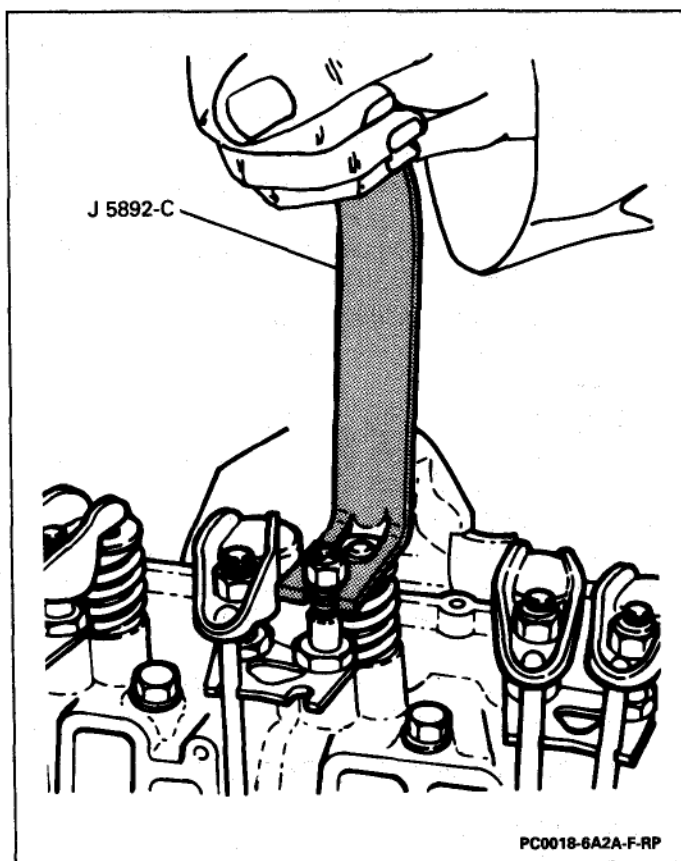

Figure 23 - Compressing Valve Spring
VALVE SPRINGS AND STEM SEALS**Figures 23 and 24****Tools Required:**
4. Compress valve spring (128 or 135) using J 5892-C (Figure 23).
5. Valve stem key (131 or 139).
6. Valve spring cap (130 or 138), and oil shield (137) on exhaust valves.
8. Intake valve stem oil seal (126).